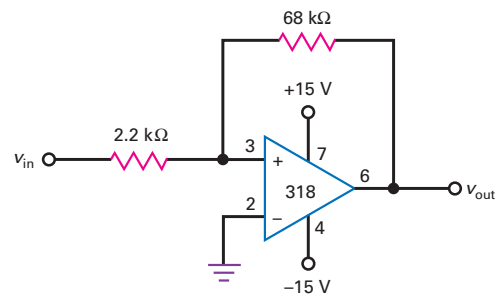

Figure 36-41
- 36.9 What are the trip points and hysteresis if, $V_{sat} = 14$ V in Fig. 36-41?